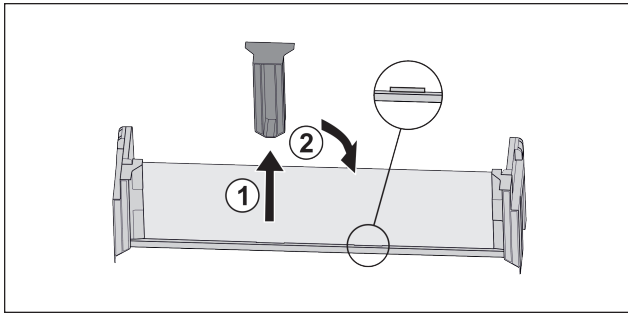

Fig. 24
- ▶ Pull off the middle holder Fig. 24 (1).
- ▶ Insert the middle holder in the second position Fig. 24 (2).